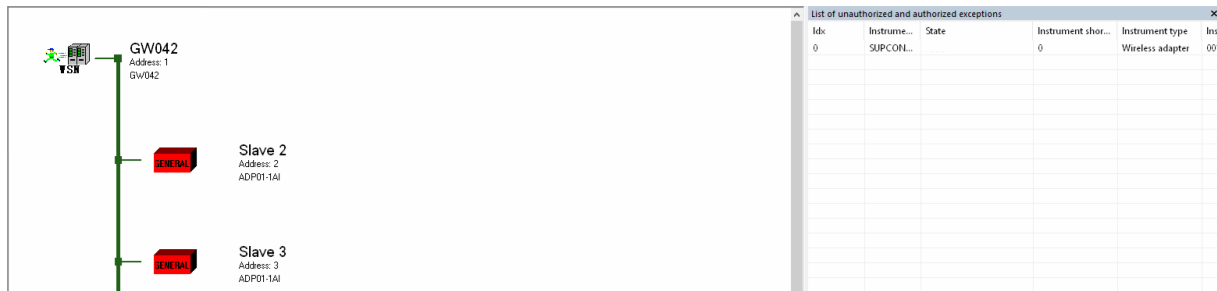

Figure 8-1 Device status and authorization status in debug mode
- For unauthorized devices, you can view them on the right pane in WLCOn software in debug mode. See Figure 8-1.